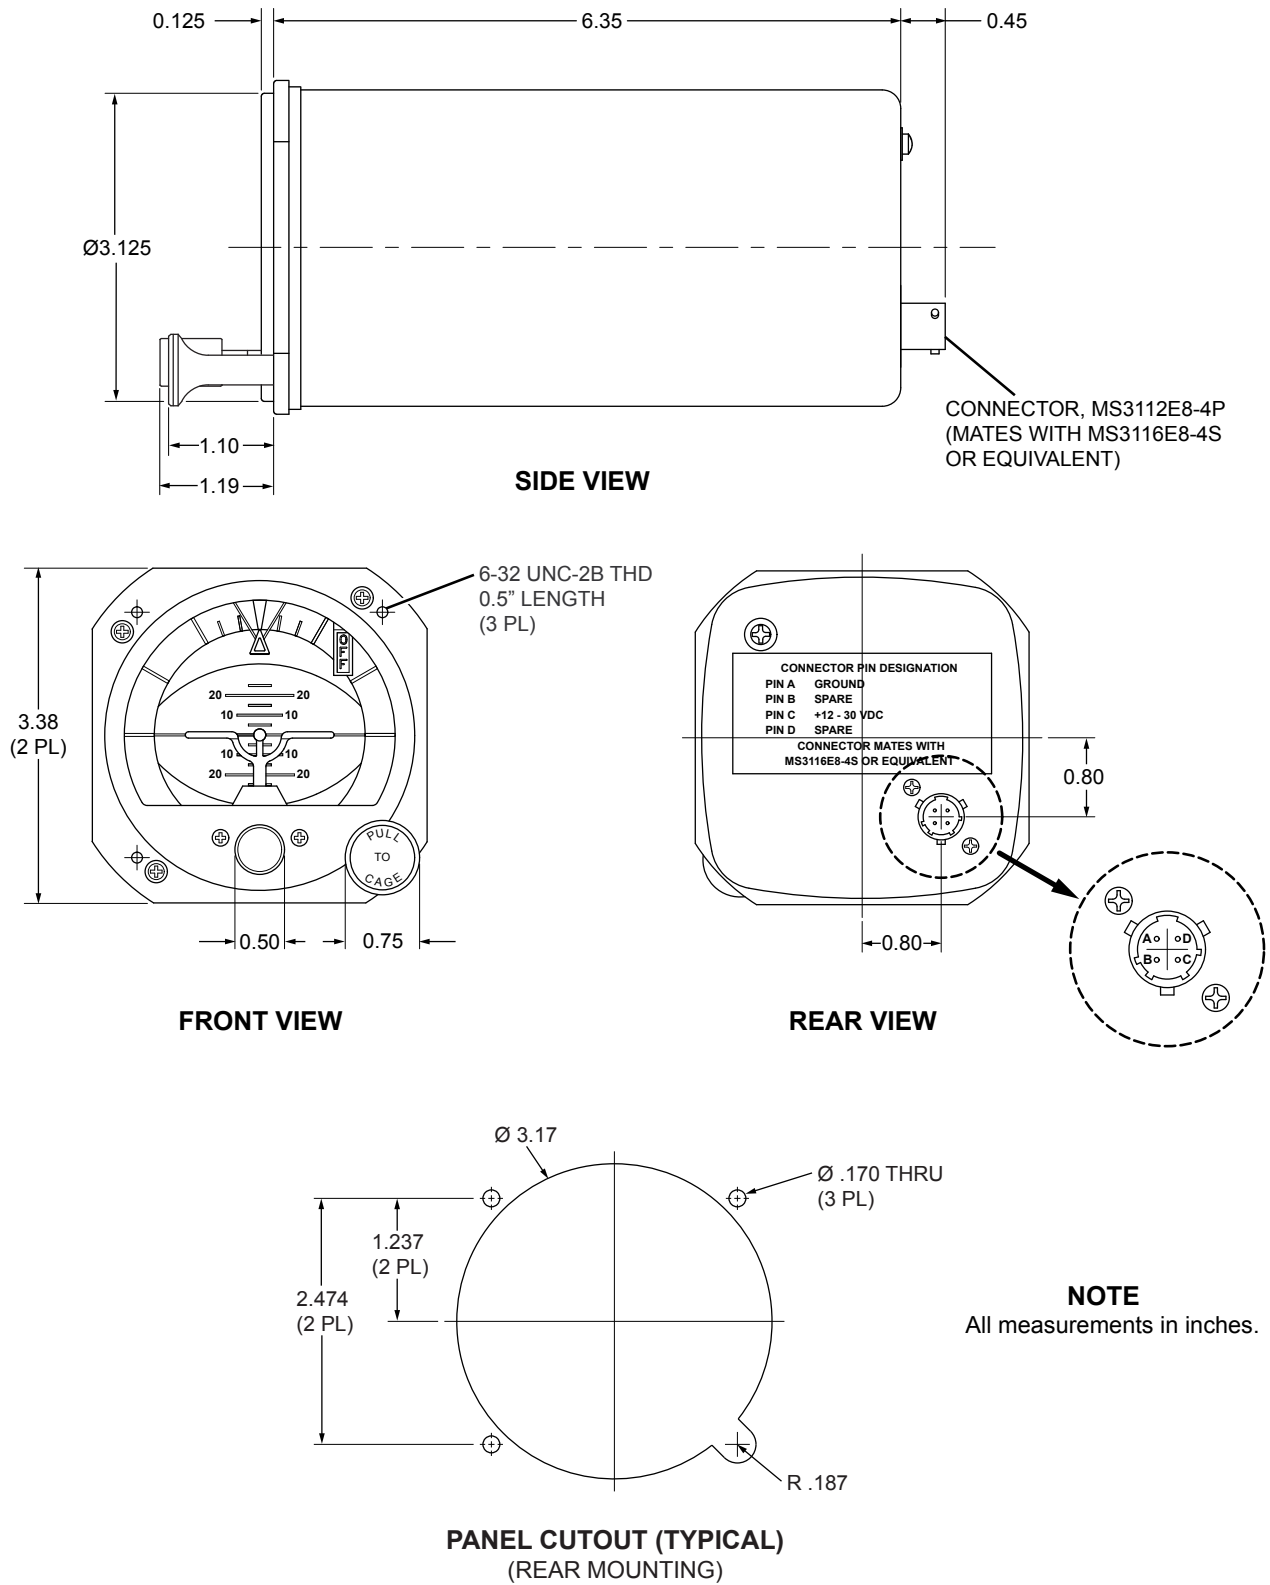

Figure 1.1, General Dimensions (Typical Unlighted)
1. The RCA26 Series horizon uses the standard 3 1/8 inch panel cutout. Refer to figure 1.1 "General Dimensions" for instrument and cutout dimensions.